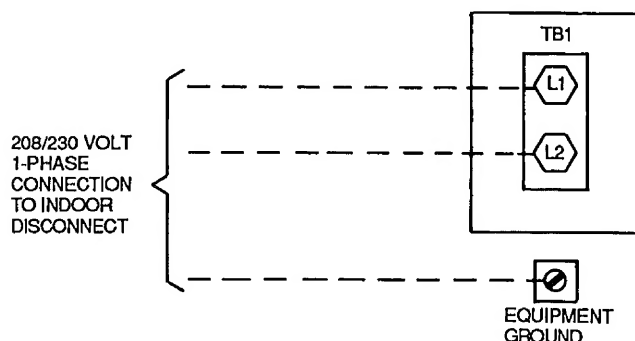

Fig. 16 — Line Power Connections
2. Route line power leads (see Fig. 16) from indoor disconnect to the fan coil unit. Place wire through hole on the control box (Fig. 17). Connect wire to high voltage terminal board (TB-1) and ground screw. When routing the wire in the unit, use care to keep the wire away from refrigerant and condensate piping and any sharp edges. Units are factory wired for 230 V to 24-V transformer operation. For 208 V to 24-V operation, interchange blue (208 V) and red (230 V) wires. Cap unused wires with wire nuts.